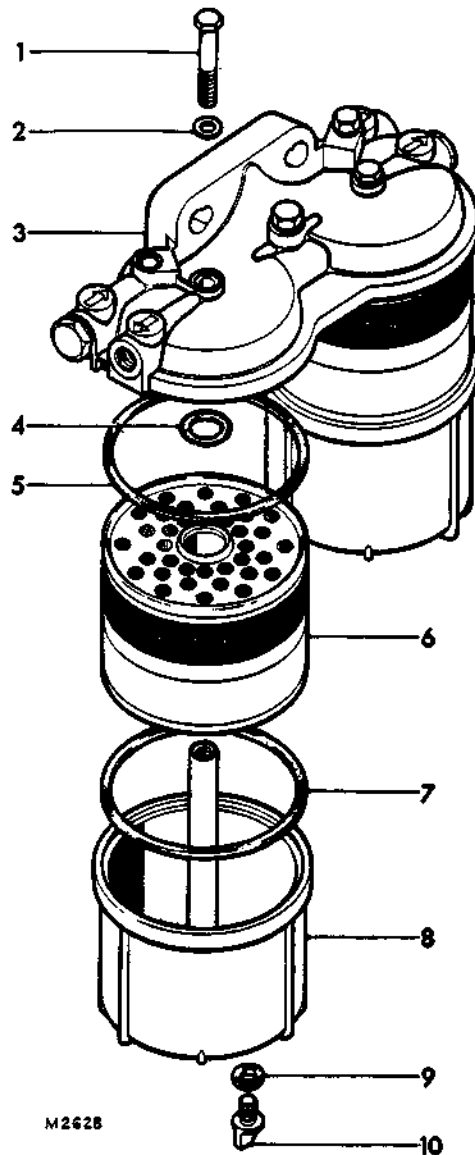

FIG. 3. EXPLODED VIEW OF C.A.V. FILTER
**FUEL FILTER (Fig. 3)**
2. Unscrew centre bolts (1) from filter head (3) and at same time hold elements (6) and bowls (8) if they have a tendency to rotate.
3. Detach elements and bowls from filter head and discard elements along with rubber sealing rings (5 and 7) and small O-ring (4).
5. Place new elements, new sealing and O-rings, supplied with each element, in position and in same order as shown in Fig. 3.